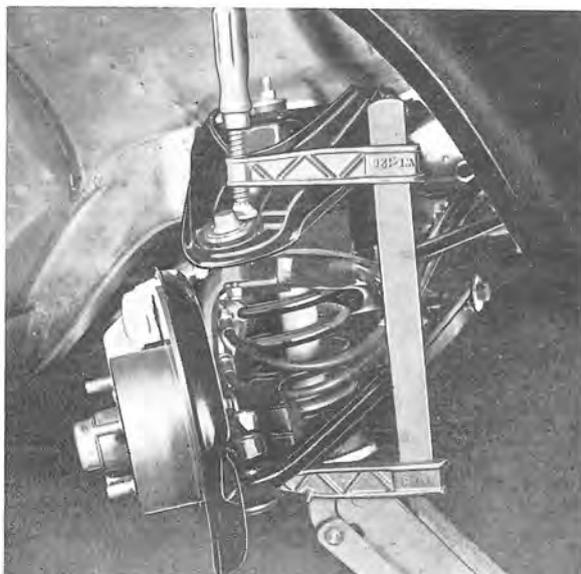

Fig. 6-24. Upper ball joint securely held by vise
2. Place the stub axle in position and tighten the ball joint nuts. If the ball joint twists, hold it firmly in position with a screw vise, see Fig. 6-24. Fit the steering rod on to the steering arm.